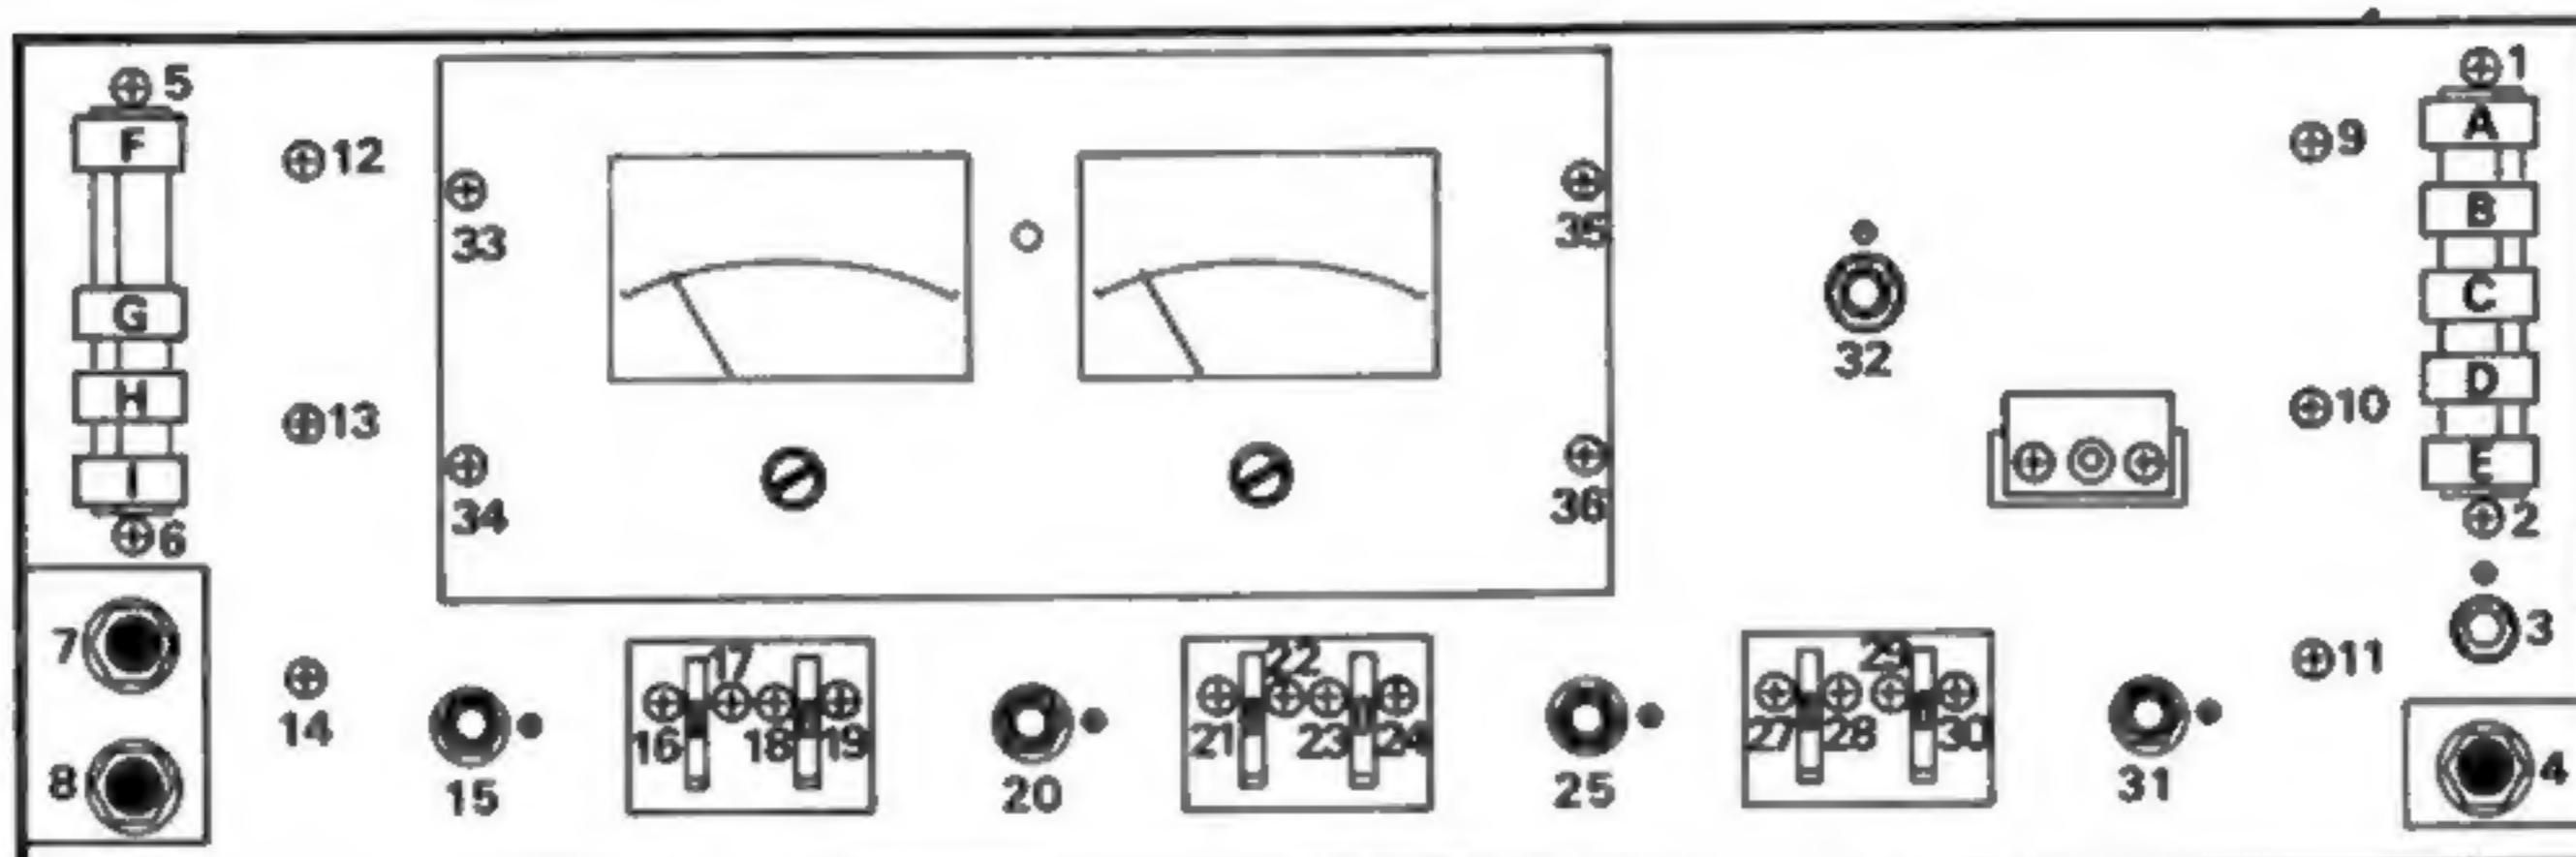

Fig. 1-4 FRONT CHASSIS
- Remove the 5 function knobs (Fig. 1-4, knobs A-E).
- Unscrew the 2 function switch mounting screws (Fig. 1-4, screws 1 and 2).
- Remove the 2 mounting nuts on MIC JACK and MIC VOL., respectively. (Fig. 1-4, nuts 3 and 4).
- Remove the 4 knobs for power switch and speaker switch (Fig. 1-4, knobs F-1), and 2 switch mounting screws (Fig. 1-4, screws 5 and 6).
- Unscrew the 2 headphone jack mounting screws (Fig. 1-4, screws 7 and 8).
- After completing procedures 1 to 3, unscrew the 4 meter decoration board mounting screws (Fig. 1-4, screws 33-36).
- After completing procedures 1 to 3, remove the 9 knobs for **FUNCTION POWER AND SPEAKER** (Fig. 1-4, knobs A-1), and the 4 switch mounting screws (Fig. 1-4, screws 1, 2, 5, and 6).
- Remove the 4 mounting nuts for **MIC VOL.**, **MIC JACK** and **PHONE JACK**. (Fig. 1-4, nuts 3, 4, 7 and 8).
- Remove mounting screws and nuts for all controls on the front chassis (Fig. 1-4, screws, nuts 15-32) 12 screws and 5 nuts), and detach Tone Control Amp. PCB from front chassis.
- After completing procedures 1 and 2, unscrew the 2 left side panel mounting screws. (Fig. 1-4, screws 9 and 10).